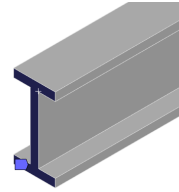

Figure 2-49 The violet color face of the model displaying the Fixed support
- Choose the **Apply** button in the **Geometry** selection box to confirm the selection of the face for Fixed support; the color of the face turns violet and a flag is attached to the face, as shown in Figure 2-49.